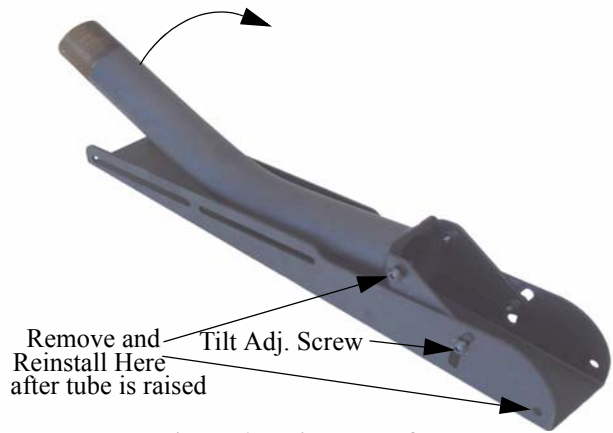

Figure 1. Raise tube of Body
1. Remove two adjustment screws that are not securing the tube and open the PCM body assembly by raising the tube, pivoting it on the tilt adjustment screws (see Figure 1).